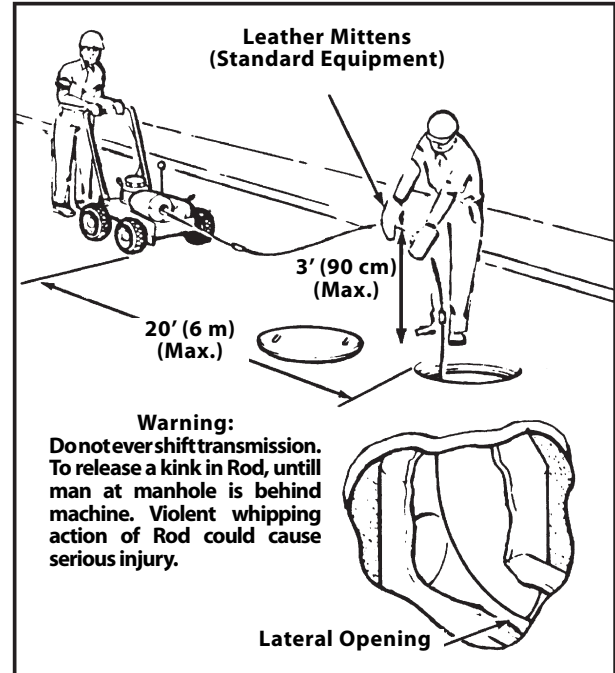

Figure 3 – Operating Rodder
⚠ WARNING Always follow the correct operating procedure in order to maintain proper control of the machine and rods and prevent serious injury (Figure 3).
11. As machine is pushed forward, the rod handler should push downward on rod with rod guided between thumbs and palms of hands with fingers extended (*Figure 3*).